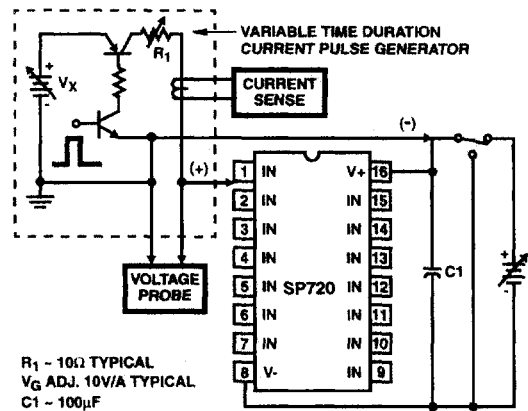
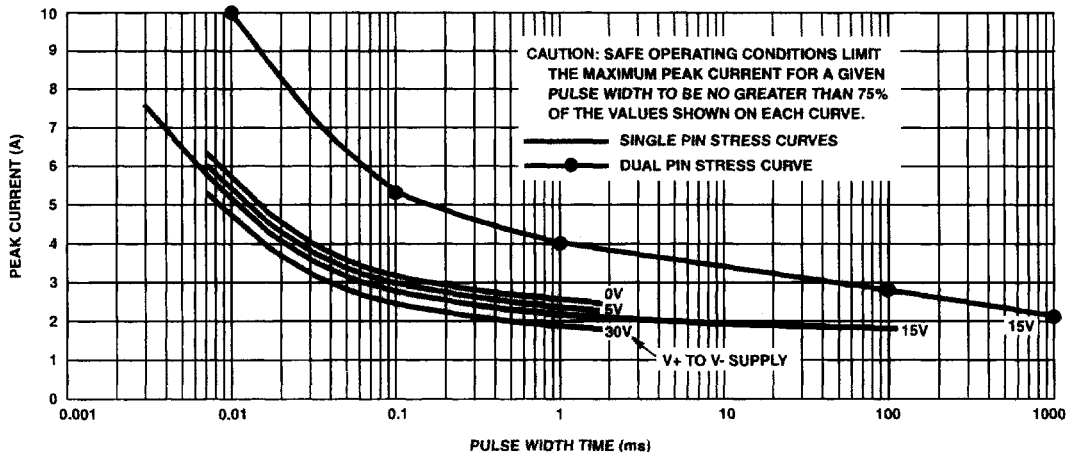

FIGURE 2. TYPICAL SP720 PEAK CURRENT TEST CIRCUIT WITH A VARIABLE PULSE WIDTH INPUT
FIGURE 3. TYPICAL SINGLE PULSE PEAK CURRENT CURVES SHOWING THE MEASURED POINT OF OVER-STRESS IN AMPERES vs PULSE WIDTH TIME IN MILLISECONDS, (TA = 25°C)
Input Peak Current,  $I_{IN}$  (Refer to Figure 3) .....  $\pm 2$ A, 100 $\mu$ s
- Refer to the Figure 3 graph for definitions of equivalent "SCR ON Threshold" and "SCR ON Resistance". These characteristics are given here for thumb-rule information to determine peak current and dissipation under EOS conditions.
The test circuit shown in Figure 2 provides a positive pulse input. For a negative pulse input, the (-) current pulse input goes to an SP720 'IN' input pin and the (+) current pulse input goes to the SP720 V- pin. The V+ to V- supply of the SP720 must be allowed to float. (i.e. It is not tied to the ground reference of the current pulse generator.) Figure 3 shows the point of over-stress as defined by increased leakage in excess of the data sheet published limits.
The maximum peak input current capability is dependent on the V+ to V- voltage supply level, improving as the supply voltage is reduced. Values of 0, 5, 15 and 30 voltages are shown. The safe operating range of the transient peak current should be limited to no more than 75% of the measured over-stress level for any given pulse width as shown in Figure 3.
When adjacent input pins are paralleled, the sustained peak current capability is increased to nearly twice that of a single pin. For comparison, tests were run using dual pin combinations 1+2, 3+4, 5+6, 7+9, 10+11, 12+13 and 14+15. The over-stress curve is shown in Figure 3 for a 15V supply condition. The dual pins are capable of 10A peak current for a 10μs pulse and 4A peak current for a 1ms pulse. The complete curve for single pulse peak current vs. pulse width time ranging up to 1 second is shown in Figure 3.